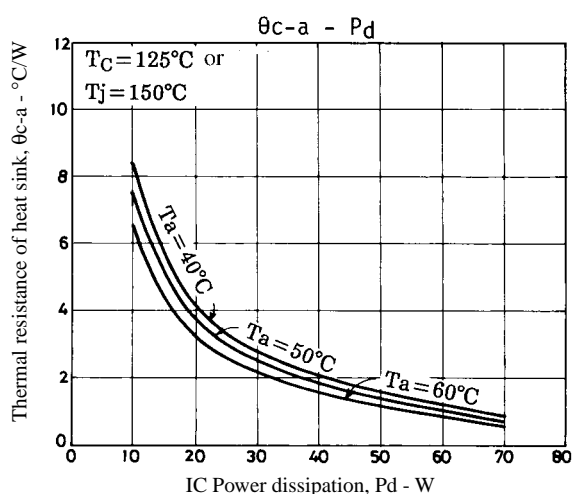

Figure 3. STK4142II θc-a – Pd
Figure 3 shows the relation between Pd and θc-a given from (1) and (3) with Ta as a parameter.
The thermal resistance of a heat sink is obtained from Figure 3.